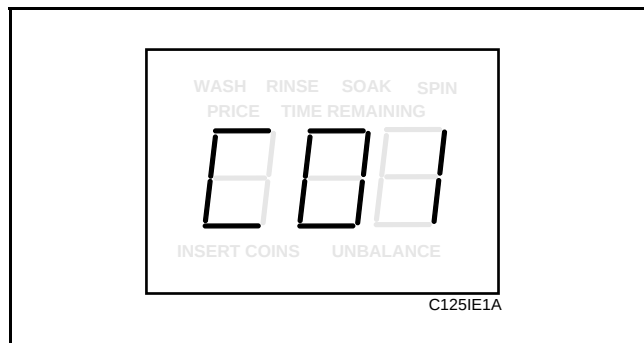

Figure 71
3. Press the DELICATES (+) pad or the COLD (-) pad to scroll through the programmable options until “COI” appears in the VFD. See **Figure 71**.